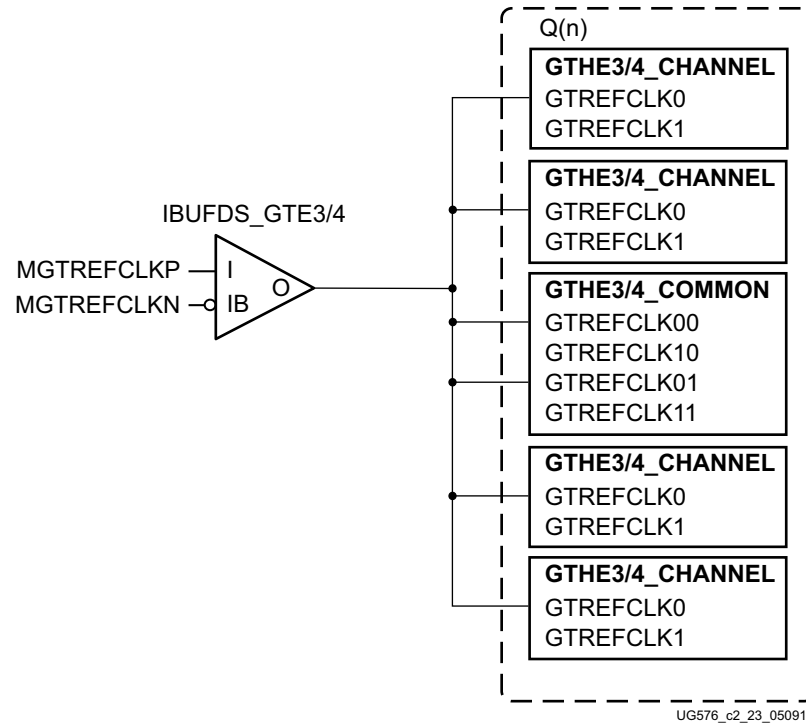

Figure 2-6: Single External Reference Clock with Multiple Transceivers in a Single Quad
Each Quad has two dedicated differential reference clock input pins (MGTREFCLK0[P/N] or MGTREFCLK1[P/N]) that can be connected to the external clock sources. In a single external reference clock use model, an IBUFDS\_GTE3/4 must be instantiated to use one of the dedicated differential reference clock sources. Figure 2-6 shows a single external reference clock connected to multiple transceivers within a single Quad. The user design connects the IBUFDS\_GTE3/4 output (O) to the GTREFCLK0 ports of the GTHE3/4\_COMMON and GTHE3/4\_CHANNEL primitives for the GTH transceiver.
**Note:** The IBUFDS\_GTE3/4 diagram in Figure 2-6 is a simplification. The output port ODIV2 is left floating, and the input port CEB is set to logic 0.